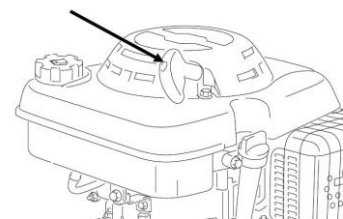

Fig. 5c
- Grip the starter handle (10) and slowly pull until resistance is felt, then pull straight out rapidly. (Fig. 5c)